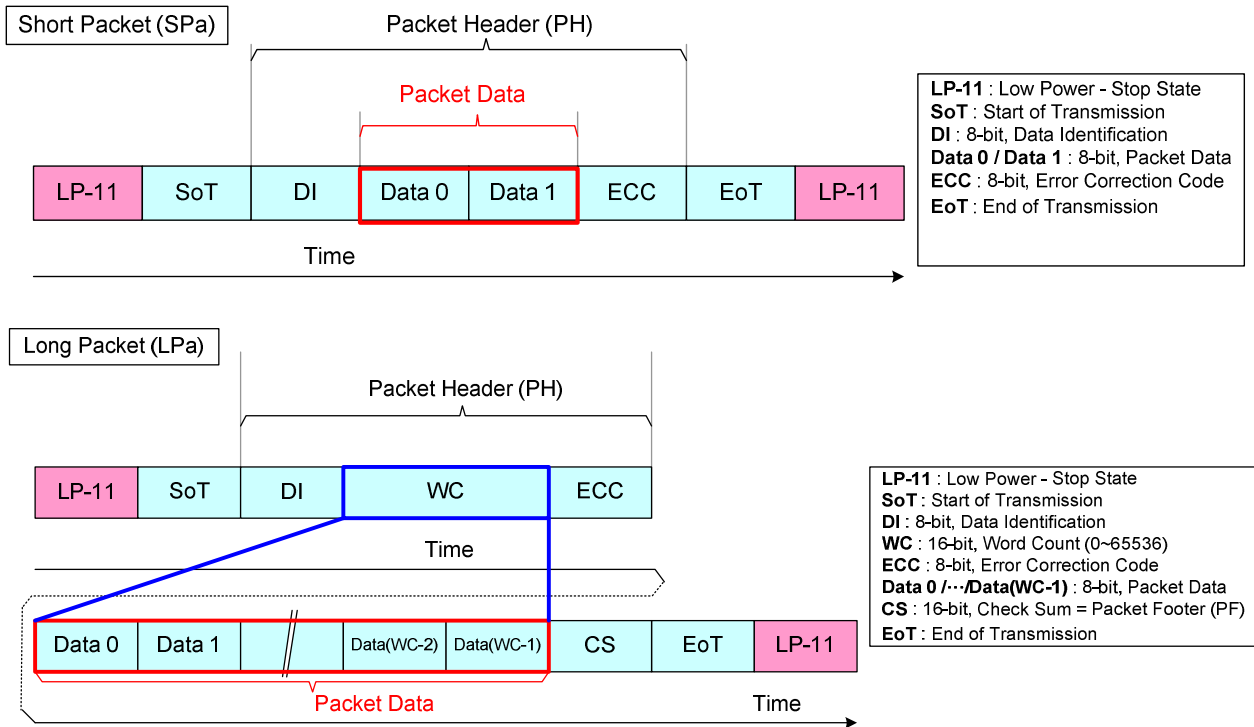

Figure 55: Packet Data in Short and Long Packets
Word Count (WC) indicates the amount of data bytes of the Packet Data (PD) which are to be sent after the Packet Header (PH). The location of Word Count (WC) in a Long Packet is the same as which of Packet Data (PD) in a Short Packet, as illustrated in Figure 55 below.